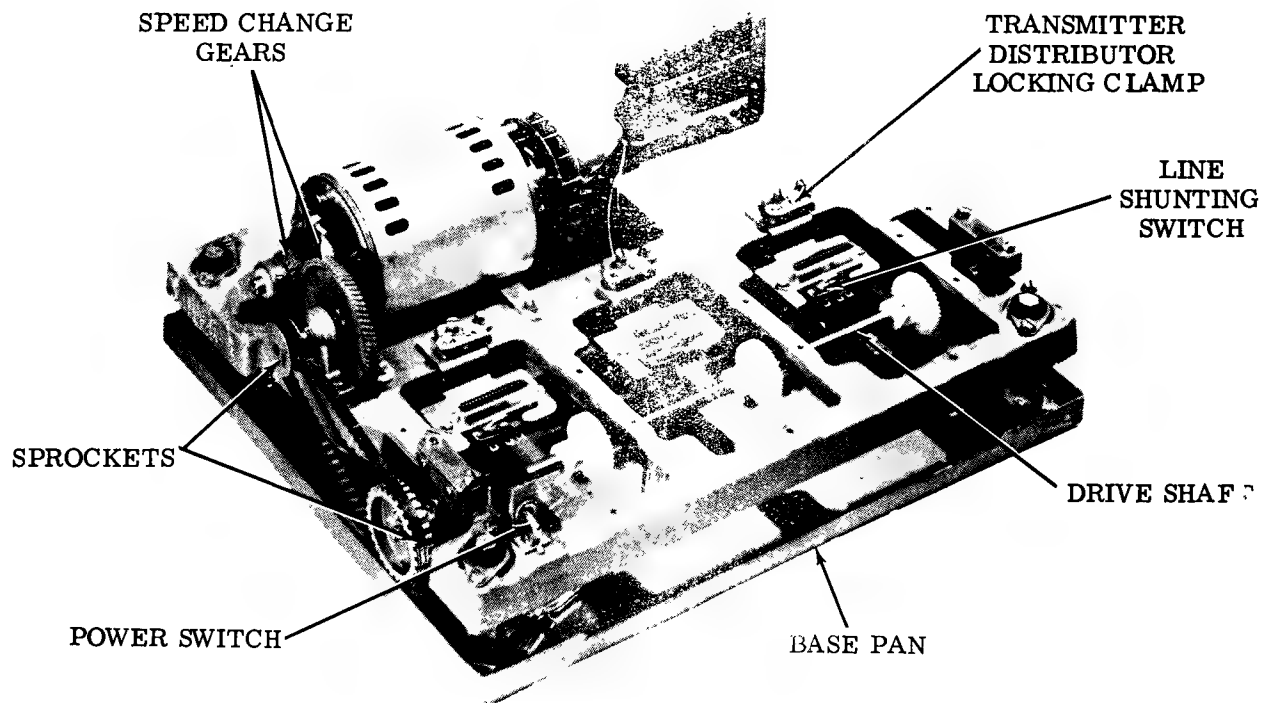
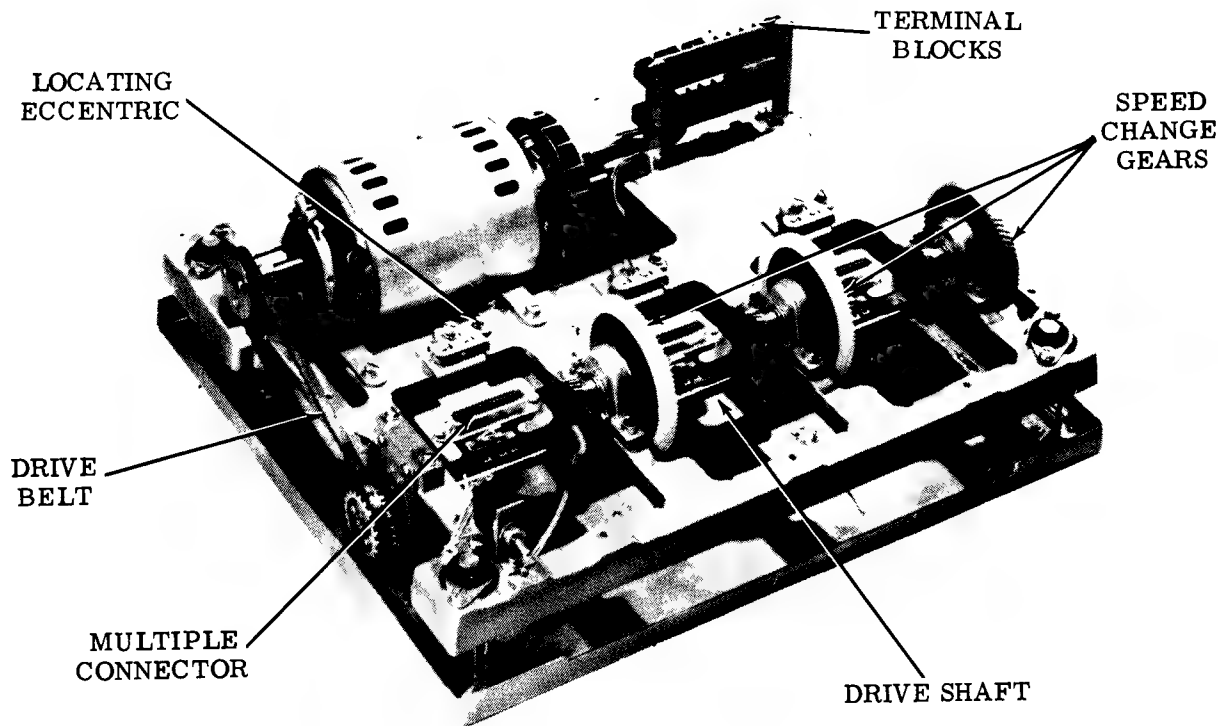
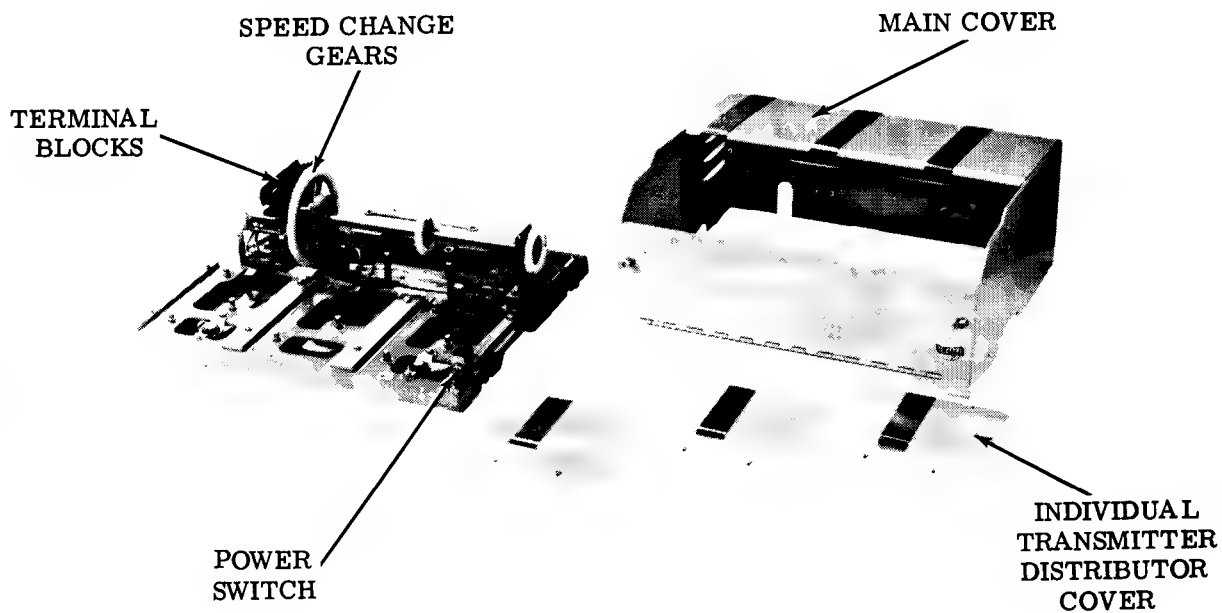
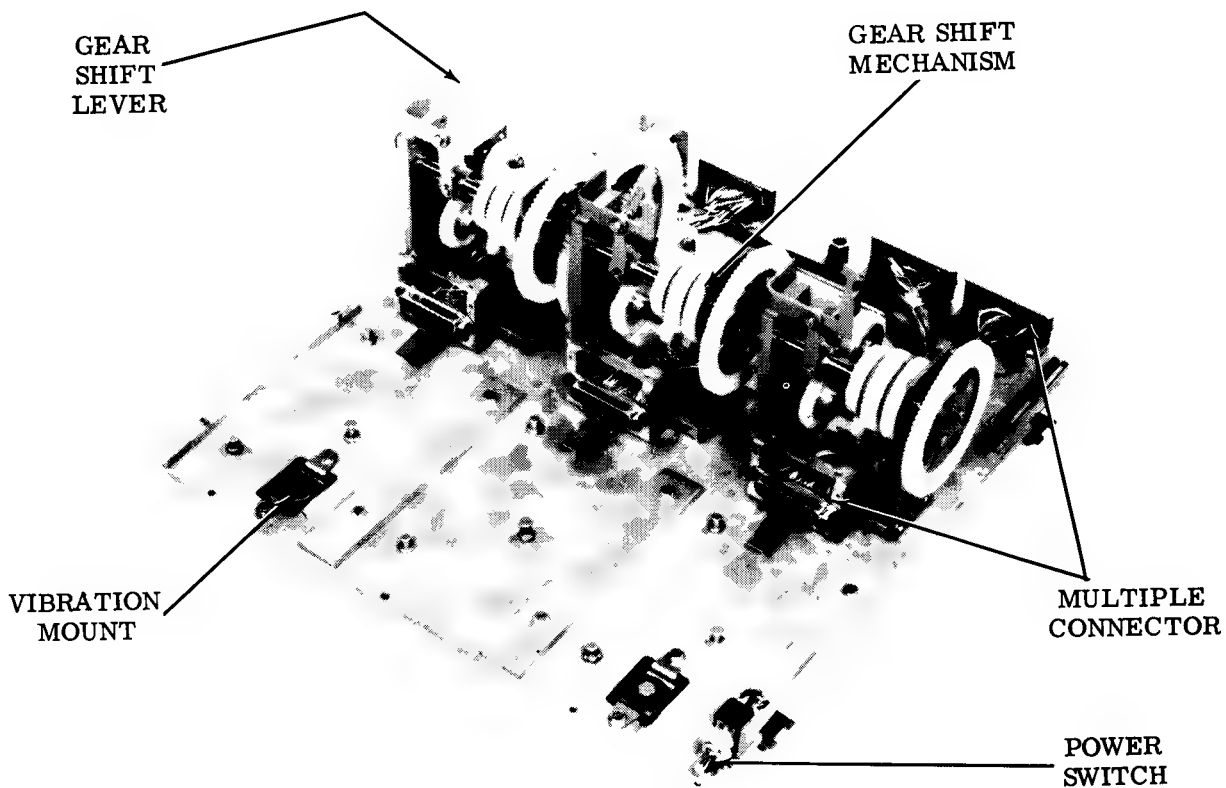

Figure 6 - Single Contact Multiple Mounting Transmitter Distributor Base (Common Speed)
Figure 7 - Single Contact Multiple Mounting Transmitter Distributor Base
Figure 8 - Multicontact Multiple Mounting Transmitter Distributor Base
Figure 9 - Multicontact Multiple Mounting Transmitter Distributor Base
2.16 The multiple mounting base is designed as a mounting for three transmitter distributors, a motor unit, drive shafting, and gears. There are two types of these bases, each with provisions for changing the driving speed of its associated transmitter distributors. One type is designed as a mounting for three single contact transmitter distributors (Figures 6 and 7). The other type is designed as a mounting for three multicontact transmitter distributors (Figures 8 and 9).
change gears between the motor pinion and an intermediate gear assembly (Figure 6). With this arrangement, the three gears on the drive shaft are the same size and drive all three transmitter distributors at the same speed. Other bases have speed change gears at each transmitter distributor (Figure 7). With this arrangement, each transmitter distributor may be driven at 60, 75, or 100 words per minute by changing its intermediate gears.
2.20 The multiple mounting bases for the multicontact transmitter distributors also serve as a mounting for three transmitter distributors, a motor unit, drive shafting with gears, and electrical connections. Some of these bases are constructed of aluminum casting (Figure 8); others are constructed of steel plates (Figure 9). A drive shaft traverses the base near its center portion and drives the transmitter distributors, either directly or through a gear shift assembly. Where the shaft drives the transmitter distributor directly, the speed changes are made between the motor pinion and
the intermediate gear (Figure 8). Where the gear shifts are used, the speed of any one of the transmitter distributors may be changed irrespective of others by shifting the gears (Figure 9).
and terminal blocks; and the other three are cover plates for the individual transmitter distributors (Figure 8). The front side of the larger cover is hinged so that it may be opened for access to the front of the transmitter distributors.